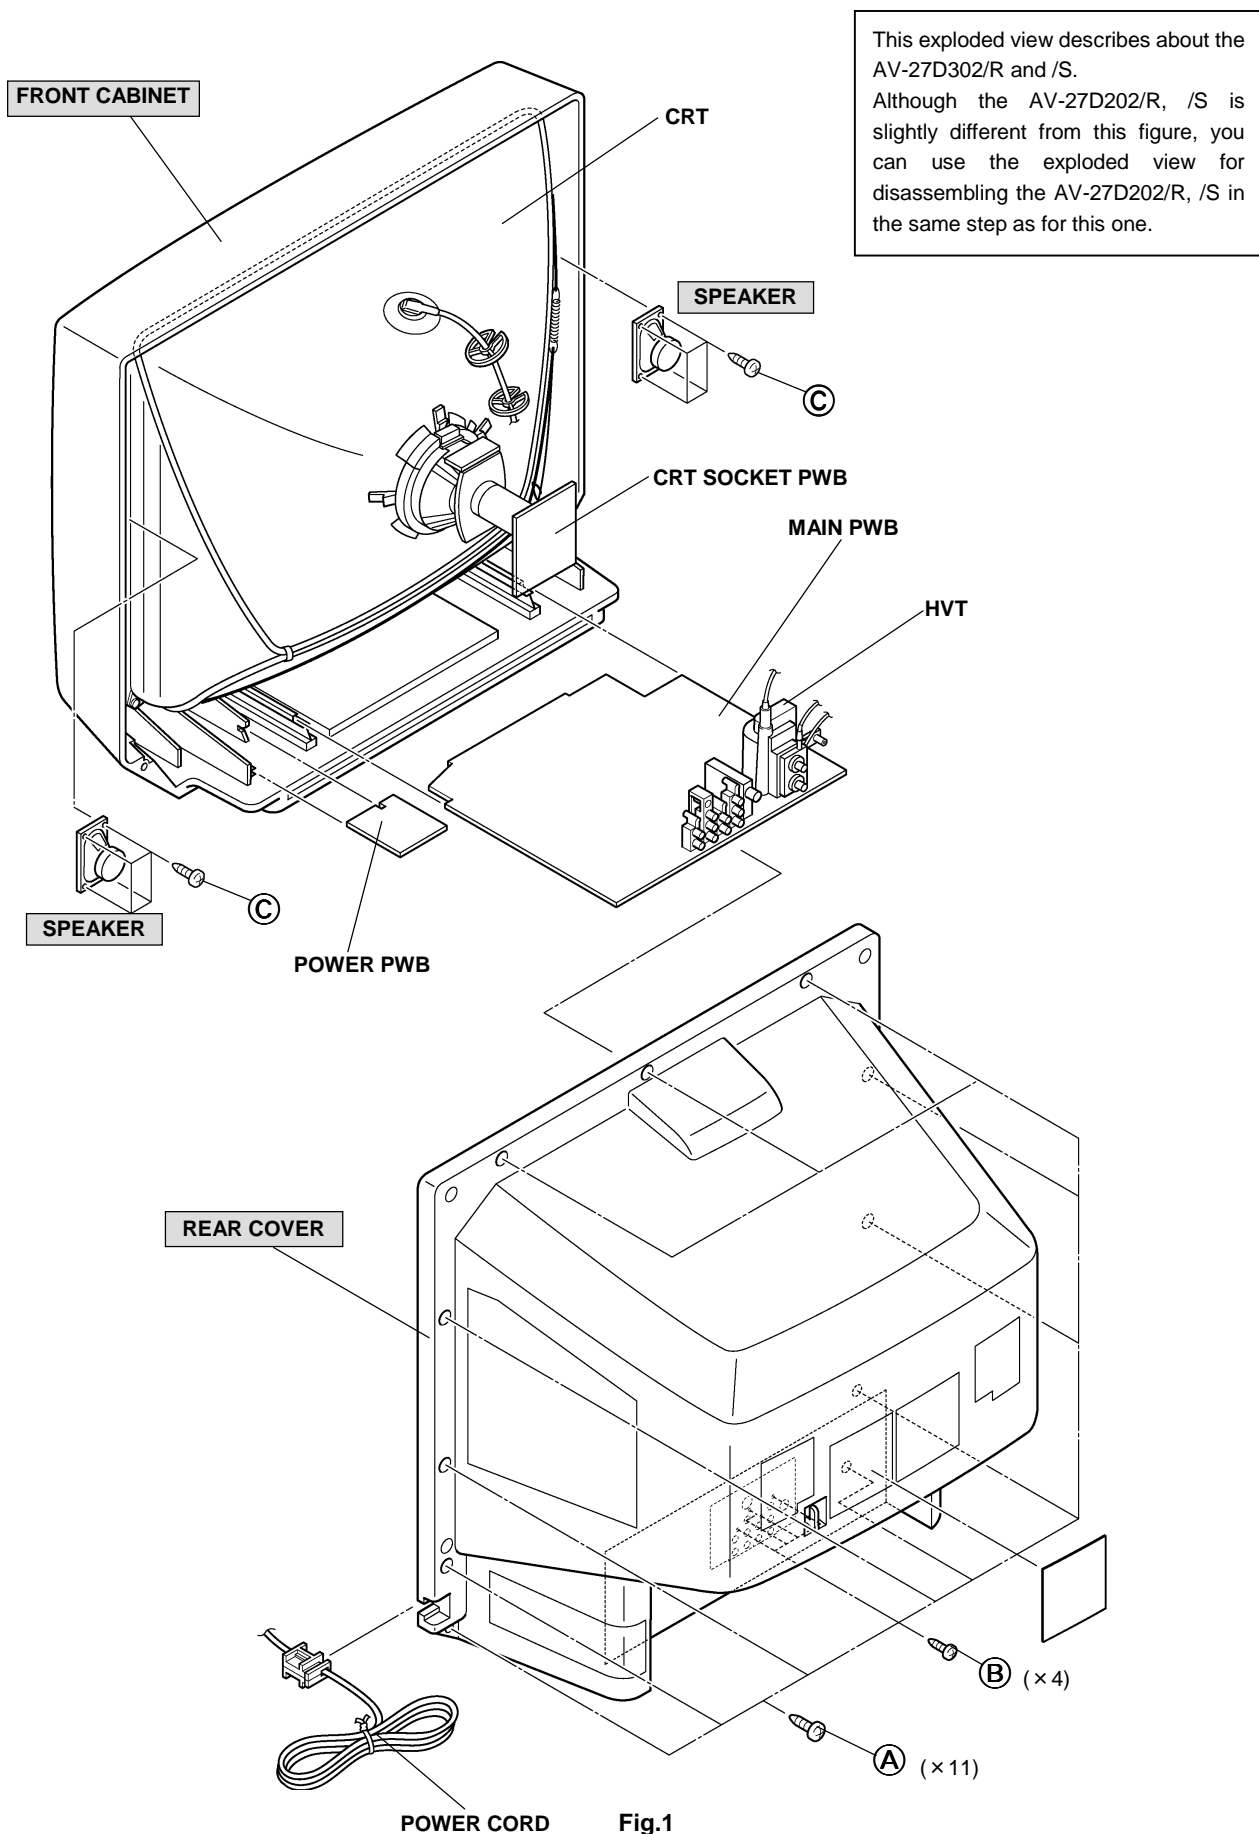

Fig.1
2. As shown in the Fig.1, remove the **11** screws marked (A) .
3. As shown in Fig.1, remove the **4** screws marked (B) .
1. As shown in Fig. 1, removing the **2** screws marked (C) , then remove the speaker.
<p>(4) System constant check and setting</p> <ol style="list-style-type: none"> 1) Press SLEEP TIMER key and, while the indication of "SLEEP TIMER 0 MIN." is being displayed, press DISPLAY key and VIDEO STATUS key on the remote control unit simultaneously. 2) The SERVICE MENU screen of Fig.1 is displayed. 3) While the SERVICE MENU is displayed, again simultaneously press the DISPLAY and VIDEO STATUS keys to display the Fig.2 SYSTEM CONSTANT screen. 4) Refer to the SYSTEM CONSTANT table and check the setting items. Where these differ, select the setting item with the UP/DOWN (▲/▼) key and adjust the setting with the LEFT/RIGHT (◀/▶) keys. 5) After adjusting, release the LEFT/RIGHT(◀/▶) key to store the setting value. 6) Press the EXIT key twice to return the normal screen. 	 <p style="text-align: center;">Fig.1</p>
<p>(7) SERVICE MENU setting Verify what to set in the SERVICE MENU, and set whatever is necessary.(Fig.1) Refer to the SERVICE ADJUSTMENT for setting.</p>